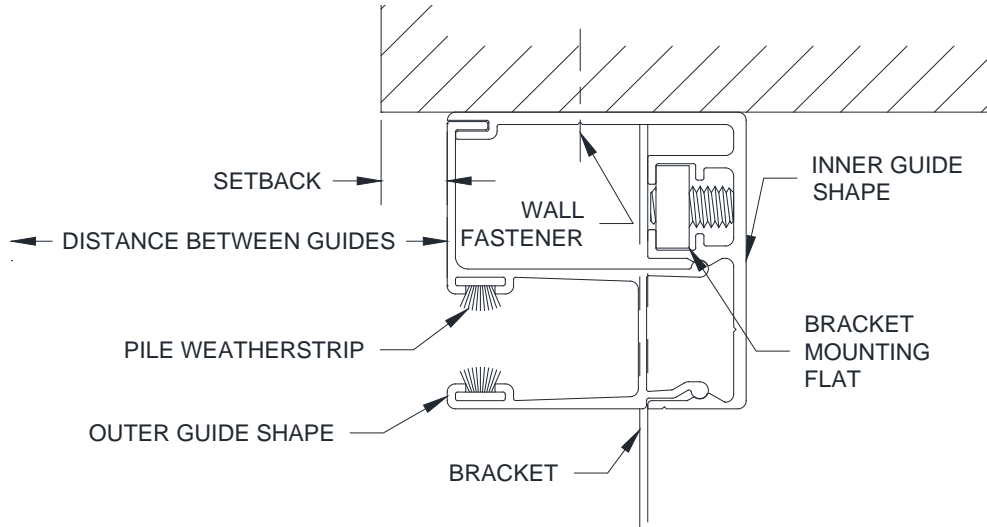
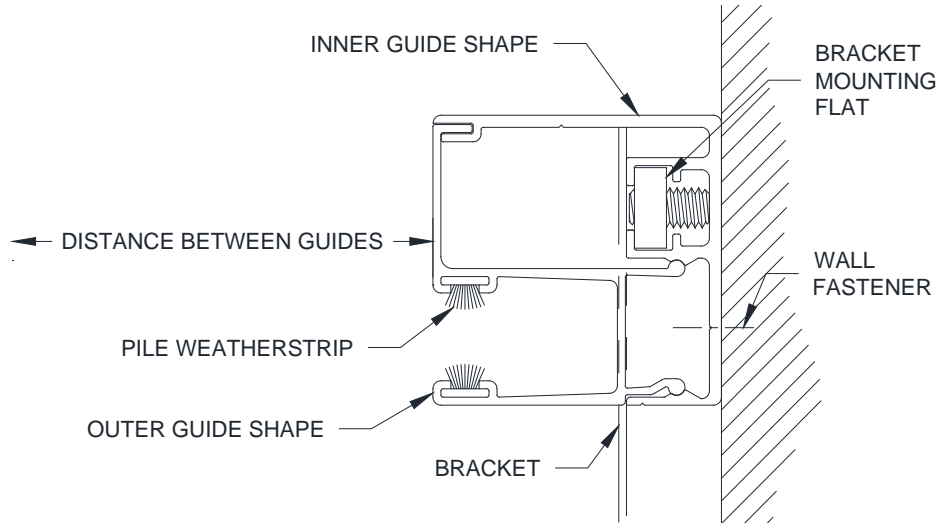
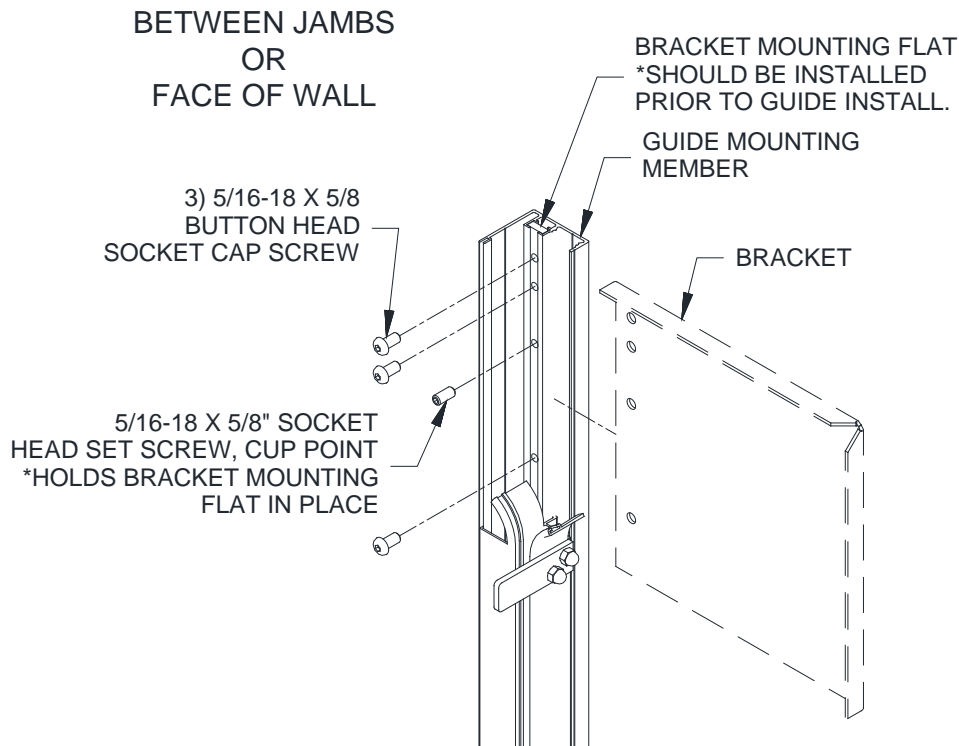

Figure 5.1 – Face of Wall Guide (extruded aluminum)
Figure 5.3 – Between Jambs Guide (extruded aluminum)
Figure 6.5– Bracket Mounting and Hardware for Aluminum Guides
▪ **Face of Wall Units (Figures 5.1 - 5.2):**
If the guides are extruded aluminum, install the bracket mounting flat at this time. This is done by sliding the flat into the top of the inner guide shape (see **Figure 5.1**) until it they are flush with each other at the top. Anchor the flat in place using the 5/16-18 socket head set screw. See **Figure 6.5** for orientation of flat.
If the guides are extruded aluminum, install the bracket mounting flat at this time. This is done by sliding the flat into the top of the inner guide shape (see **Figures 5.3 or 5.4**) until it they are flush with each other at the top. Anchor the flat in place using the 5/16-18 socket head set screw. See **Figure 6.5** for orientation of flat.
3. Measure the distance between the brackets and compare that to the distance measured to the inner guide shapes for steel guides and to the mounting member (where the bracket mounting flat is located) for aluminum guides. See **Figures 6.5 and 6.6** below for bracket locations in relation to the guide shape.
7. Insert the specified bolts and snug tighten, see **Figures 6.5 and 6.6**.